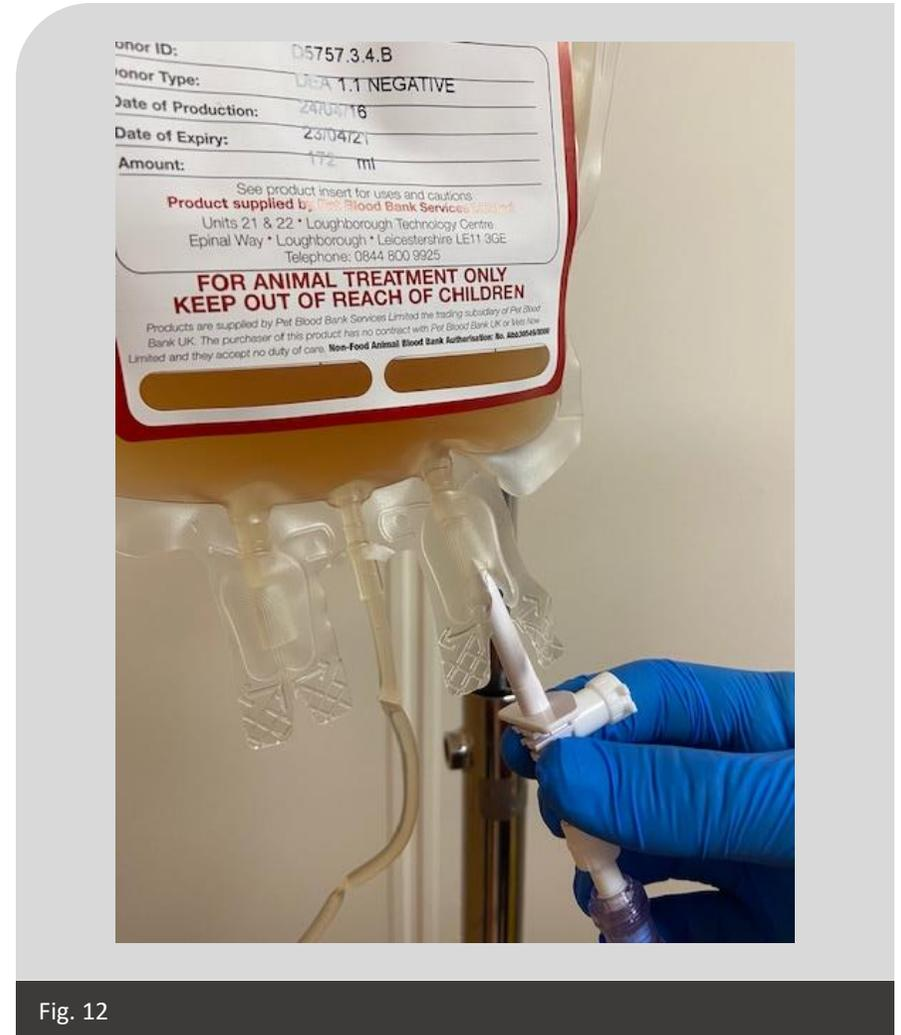

Fig. 12
- Insert the spike into the port with a firm twisting motion (Fig.12), do not stop until the spike is fully inserted to the hilt.